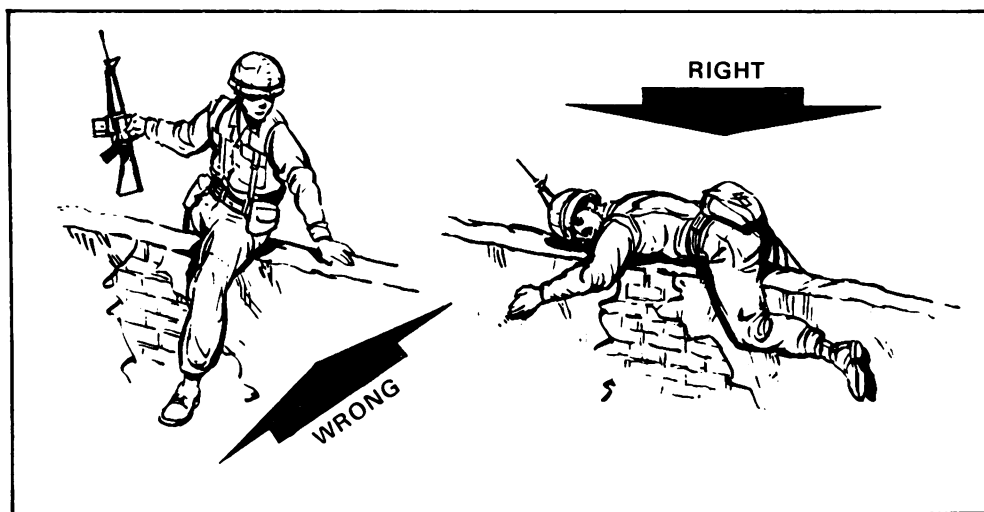

Figure 4.
5. To go over a wall, roll quickly over the top to avoid going over upright (figure 4). When crossing an obstacle such as a wall, use the buddy system: one man covers while one crosses.